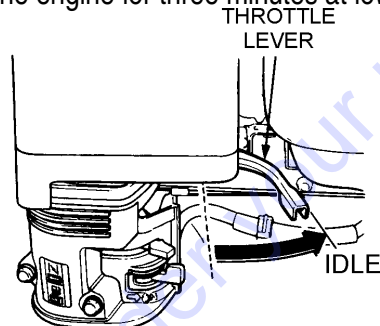

Figure 21. Throttle Lever (Idle)
- Move the throttle lever to the **IDLE** position (Figure 21) and run the engine for three minutes at low speed.